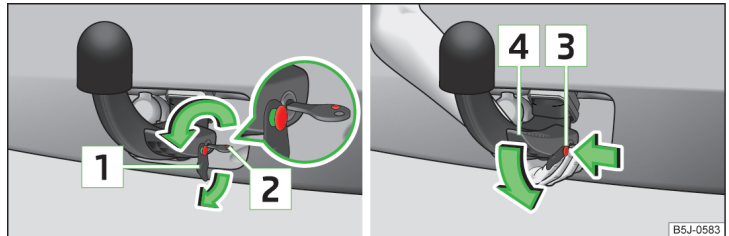

Fig. 128 Unlock the operating lever of the ball head/removing the ball head
- Remove cover **1** from the lock in the direction of the arrow » Fig. 128 .
- Turn the key 180 ° to the left, so that its red marking **2** is visible.